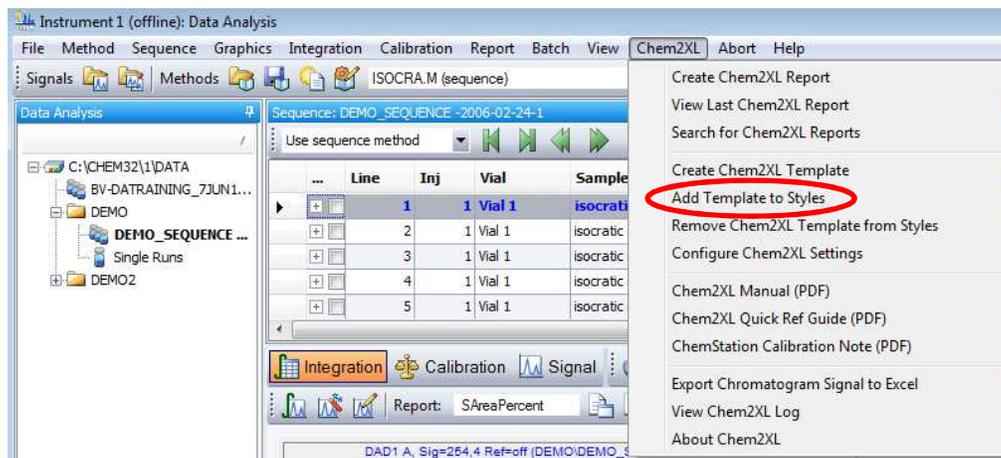

Figure 4.9 Add Chem2XL template to ChemStation Styles.
14. In order for Chem2XL to output reports, it is necessary to add the template to the ChemStation report styles. After creating a template and saving it (steps 1-13), select Chem2XL from the drop down menu and click on *Add Template to Styles*. (see Figure 4.9 and 4.10)